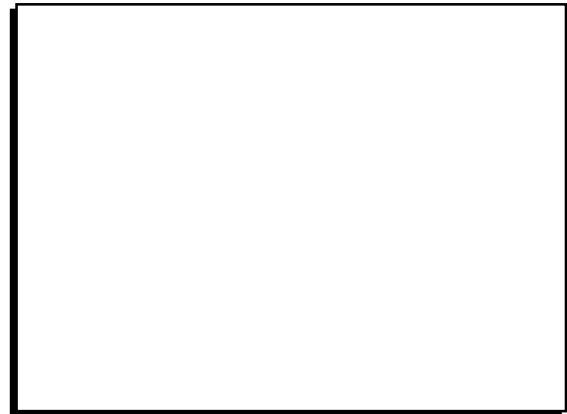

Figure 5 Timing Marks and Indicator.
1. Rotate the engine to top dead center. Locate and cut out the timing strip on the bottom of page 3 of this instruction manual. Position the timing strip on the top of the flywheel so that the "TDC" mark on the timing strip is straight up on the flywheel. Use clear tape to fasten the strip to the flywheel (Figure 5). Using the timing strip as a template scribe each timing mark onto the flywheel. The timing tape is strictly a template and is not meant to be permanently attached.